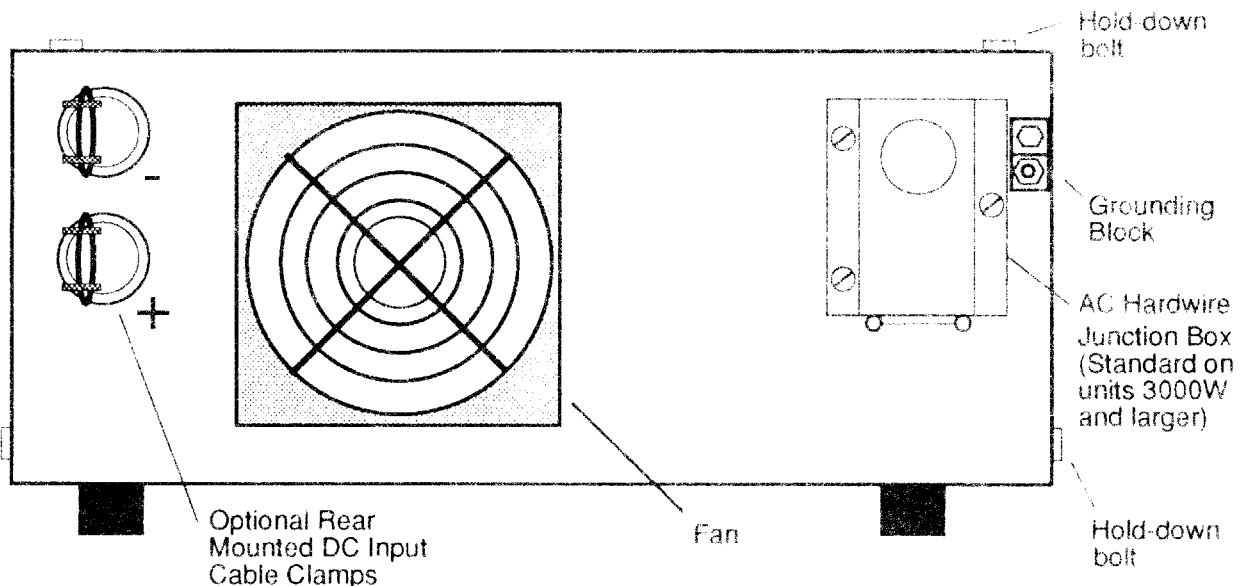

Figure 1.2 - Inverter Rear Panel
9. **DC input cable clamps** - Strain relief clamps for DC input cables. It is optional to have DC input cables enter through rear of unit (see Fig. 1.2).
1.6 INVERTER BACK PANEL (Refer to Fig. 1.2)